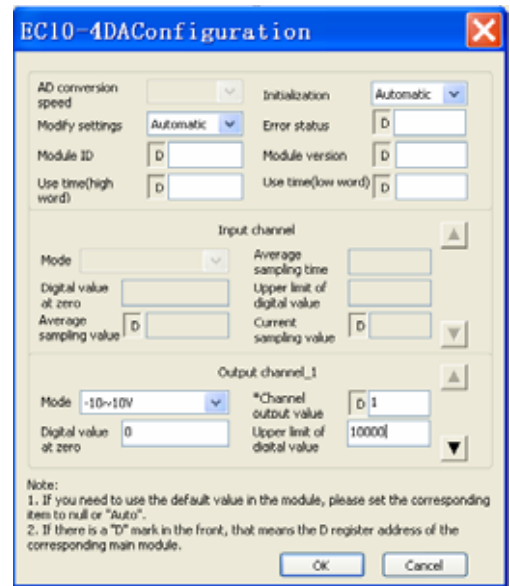

Figure 4-2 Changing CH1 characteristic
7. BFM#4094: module software version information, displayed automatically as **Module Version** in **EC10-4DA Configuration** dialogue box of the host software, as shown in Figure 4-2.
The channel characteristic setting is shown in figures 4-2 ~ 4-4. For details, see *EC20/10 Series PLC Programming Manual*.